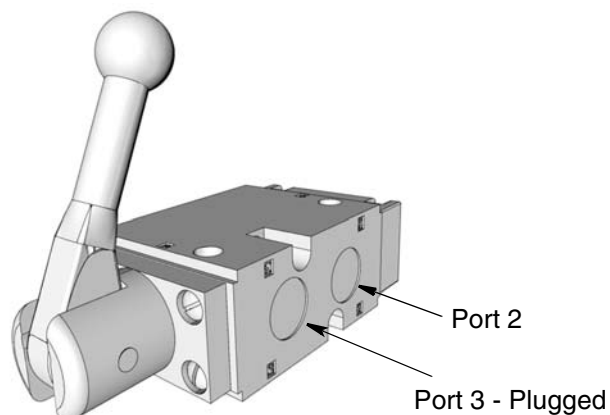

FIG. 67
- b. Connect port 2 to the reel air motor (FIG. 67).